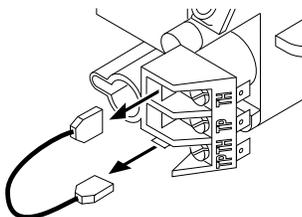

Figure 40 - Disconnecting TH to TPTH Wire
5. Remove wire from TH to TPTH on control valve (see Figure 40).
2. Disconnect the wire that runs from TH to TPTH from the valve as shown in Figure 40.